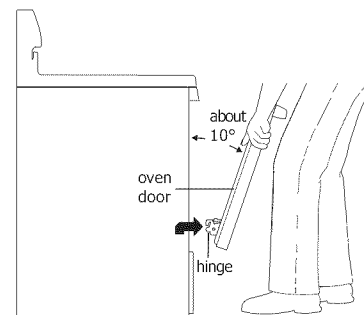

Figure 46: How to remove door
3. Firmly grasp both sides of oven door along the door sides (Do not use the oven door handle - Figure 46).
1. Firmly grasp both sides of oven door along the door sides (Do not use the oven door handle - Figure 46).